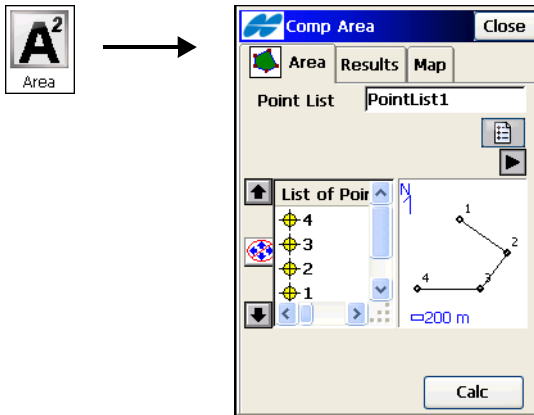

Figure 10-12. By Points
1. On the **Comp Area** screen (Figure 10-12 on page 10-12), select a point list that contains the points constituting the vertices of the polygon. Use the arrow buttons to change the order of the points (and thus the shape of the polygon).